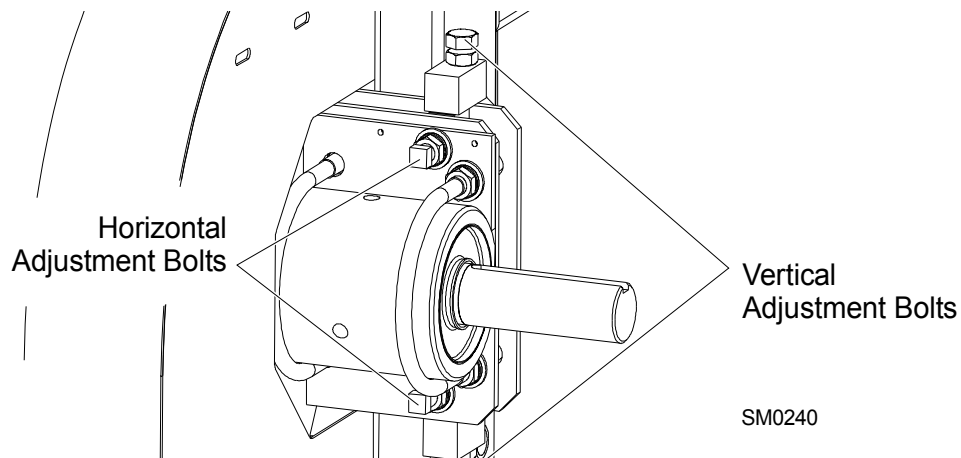

FIG. 5-3
**See Figure 5-3.** For horizontal adjustment, use the horizontal adjustment bolts. If the blade is running too far back on the drive-side blade wheel, locate the long U-bolt on the right which mounts the bearing housing to the mounting plates. Loosen the hex nuts on the U-bolt (on the back side of the back plate). Loosen the jam nuts on the horizontal adjustment bolts. Tighten the adjustment bolts to spread the plates apart and bring the blade forward.